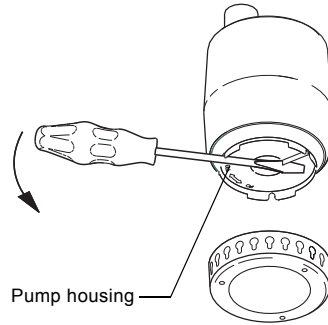

**Fig. 10** How to remove the inlet strainer
- Press a screwdriver in between the pump sleeve and the strainer and press hard. Do the same in several places along the strainer until it is pried loose and can be removed. See fig. 10.